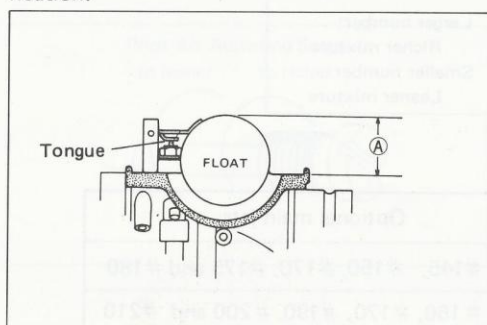

Fig. 74. Float level adjustment
Hold the removed carburetor body in inverted position, taking care not to allow the float arm pin to come off. Raise the float arm with a fingertip and lower it gradually until it touches the needle valve. Measure the distance (A), Fig. 74 or 75, with a caliper: this distance must be equal to the specified "float height" indicated below; if not, bend the tongue to increase or decrease the distance to the specification.